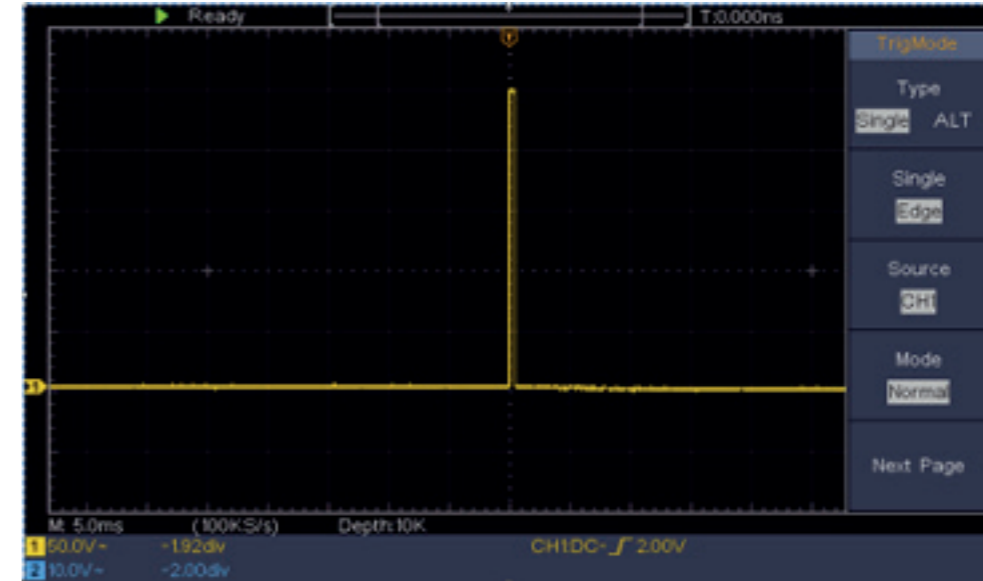

Figure 6-3 Capturing a Single Signal
12. Check the Trigger State Indicator on the top of the screen, if it is not Ready, push down the **Run/Stop** button and start acquiring, wait for trigger to happen. If a signal reaches to the set trigger level, one sampling will be made and then displayed in the screen. By using this approach, a random pulse can be captured easily. For instance, if we want to find a burst burr of high amplitude, set the trigger level to a slightly higher value of the average signal level, push the **Run/Stop** button and wait a trigger. Once there is a burr occurring, the instrument will trigger automatically and record the waveform during the period around the trigger time. By turning the **Horizontal Position** knob in the horizontal control area in the panel, you can change the horizontal triggering position to obtain the negative delay, making an easy observation of the waveform before the burr occurs (see Figure 6-3).